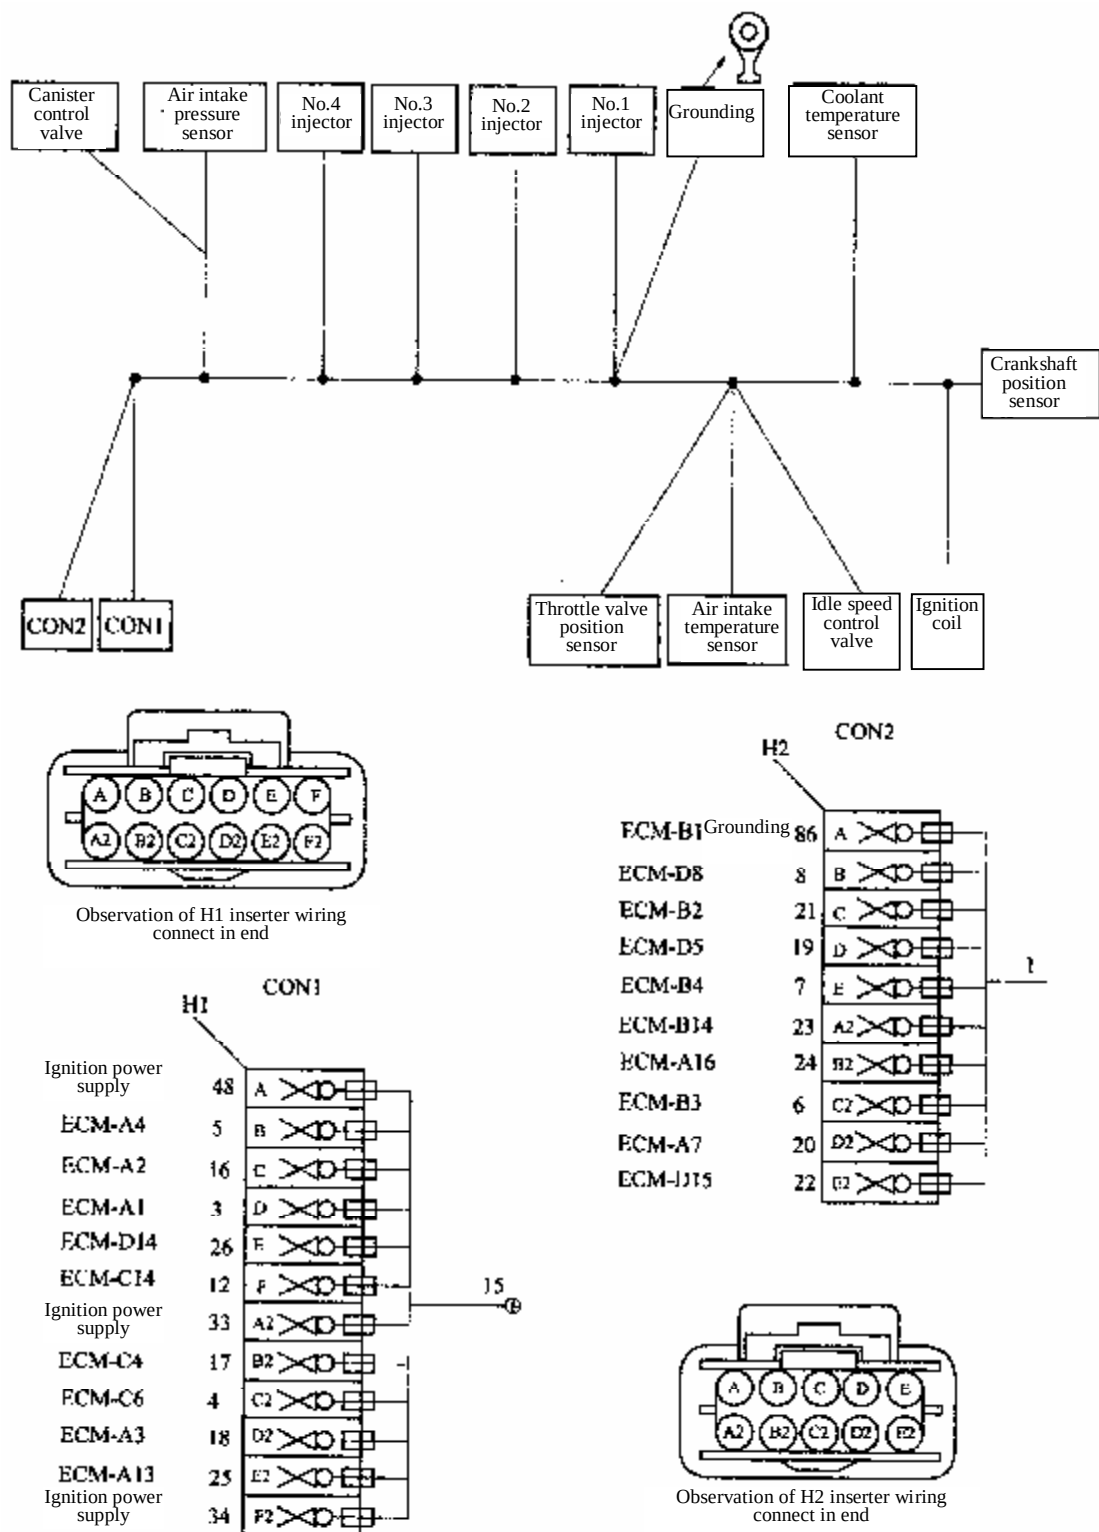

Figure 4-24 MPI Gasoline Engine Harness Diagram for BJ491EQ1 Foton View Sea Lion Light Bus
4.2.16.1 Figure 4-24 shows multi point electronic injection gasoline engine system harness diagram for BJ491EQ1 Foton View Sea Lion light bus.